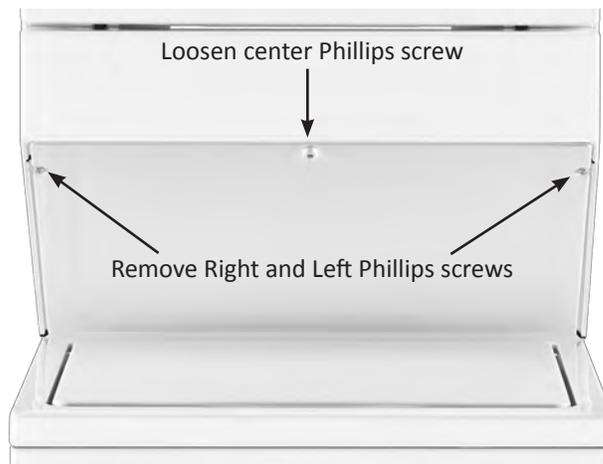

Figure 1
2. Use a Phillips screwdriver to remove the right and left screws and loosen the center screw used to secure the transition panel to cabinet (see Figure 1).